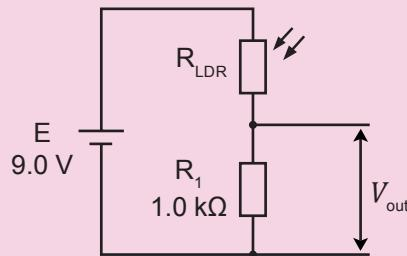

Figure 8.21
1. For the circuit in Figure 8.21, calculate the resistance of the LDR when the output voltage is 5.0 V.